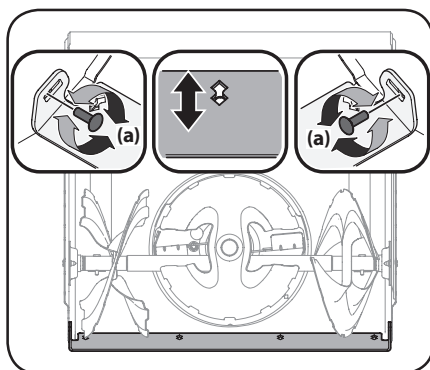

Figure 4-3
**NOTE:** The shave plate on select units (shown in Figure 4-3) have a wear edge that can be adjusted forward to prolong its life. As the shave plate wears, it can be moved into a second position.
3. Loosen rear skid shoe bolts (a) on both sides of equipment housing and remove carriage bolts and hex nuts which attach shave plate to auger housing. See Figure 4-3.
4. Slide shave plate downward into second position. Reinstall and tighten all bolts securely. See Figure 4-3.